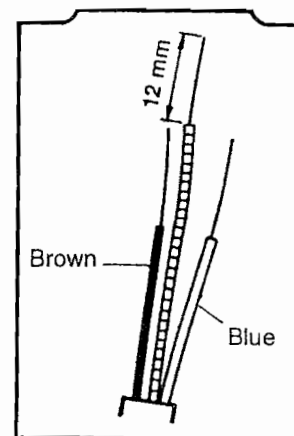

Fig. 19
7.1.2 The earth conductor must be cut longer than the live and neutral (fig. 19).